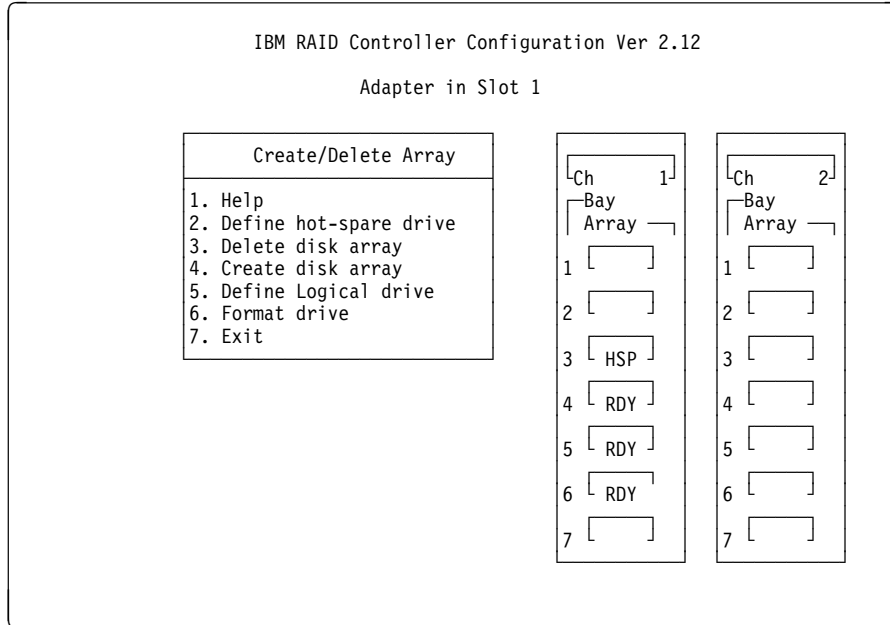

Figure 34. RAID Configuration Program - Hot-Spare Disk Definition
2. Use the up and down arrow keys to select the RDY (ready) drive to be used as a hot-spare and press Enter. The RDY status changes to HSP (hot-spare). Figure 34 on page 44 shows an example where a hot-spare disk has been defined.